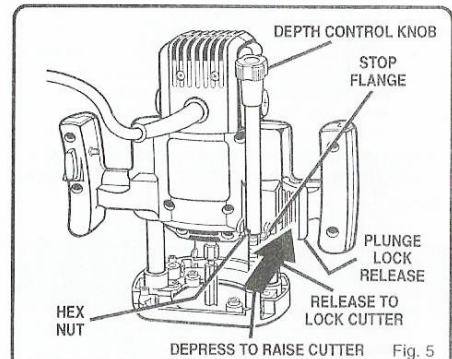

Fig. 5
See Figures 5, 6 and 7.
- Raise cutter by depressing plunge lock release. See Figure 5.
- Adjust depth control knob until cutter is inside router subbase. See Figures 5 and 6.